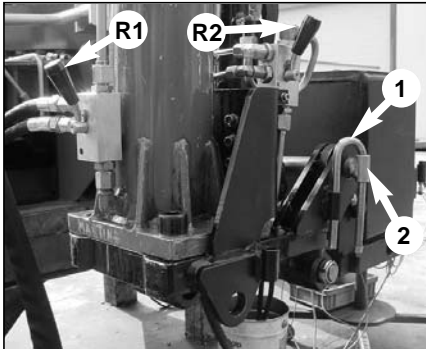
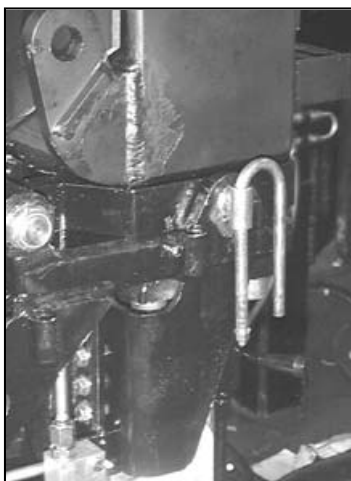

fig. 13
fig. 15
- **rotation of the outrigger ram n°1 from the rest position (fig. 13) to the working condition (fig. 15)**